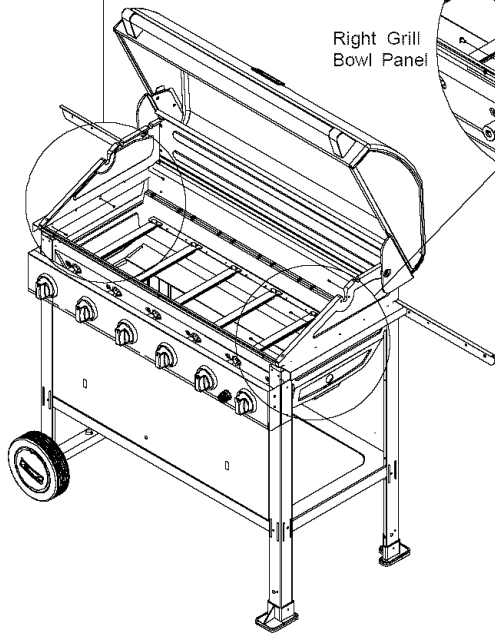

Fig. 2
- ☐ Install Grill Bowl (Left and Right Side Panels) to Cart (Left and Right Bowl Support Bracket) using 6 Phillips Head Screws 3/16"x3/8". Tighten securely only after Grill Support Frame is attached. See figure 2.